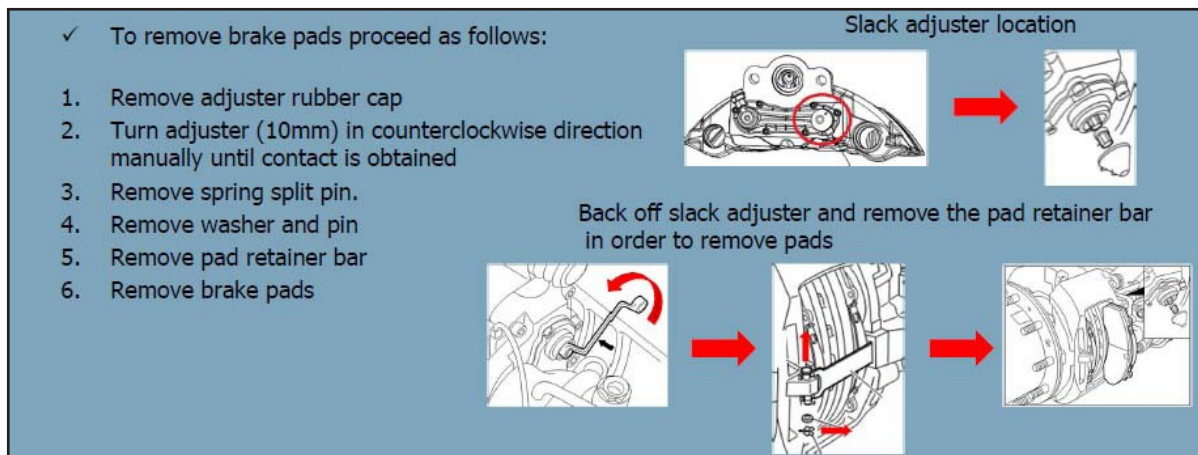

Figure 10 - Remove the Brake Pads
1.11. Remove the brake pads (see Figure 10).